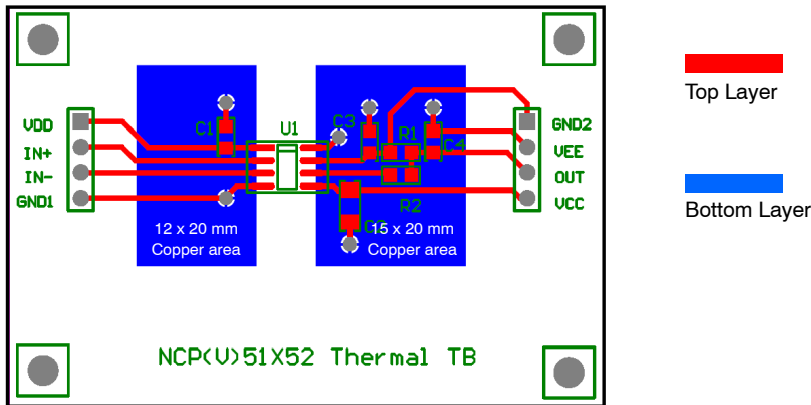

Figure 5. Reference Layout for the Type–B
8. As specified for a reference layout shown in Figure 5. The DUT is mounted on a 60 x 40 x 1.6 mm FR4 substrate with an additional heat spreading copper of 240 mm2/300 mm2 (Primary/Secondary). The copper thickness is 1oz and test conditions is under natural convection or zero air flow.